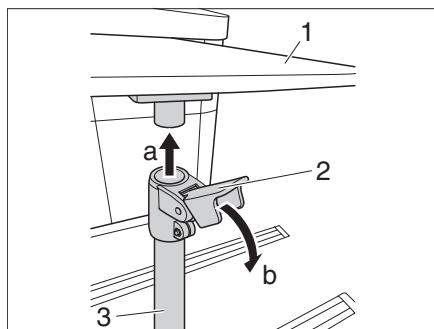

Fig. 12 Clamp the support foot
- Swivel the table-top (Fig. 12,1) by 90°.
- Insert the support foot (Fig. 12,3) into the table-top (a).
- Press the clamp (Fig. 12,2) down (b).